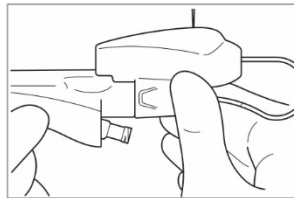

Figure 3
3. Attach the LED Light Fiber housing to the barbed fitting of the XprESS device (Figure 3).